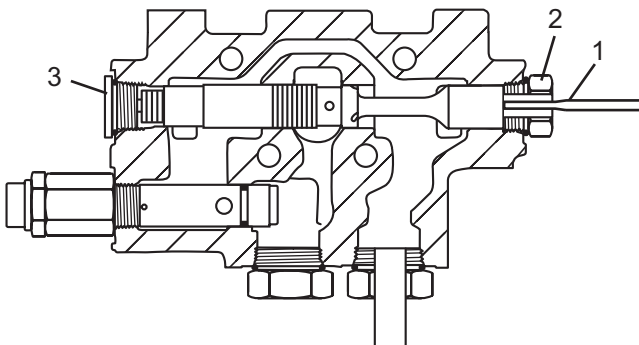

Figure 30
5. Using a punch or rod (Figure 30, Item 1) push on the large spool through the sense line hole in the large nut. The large spool should move in approximately 9/16 in. (14 mm) before stopping. The internal spring should return the large spool easily when the punch is removed. If the large spool binds or is sticky, it is probably contaminated and will have to be removed for cleaning and inspection.
- a. Remove the large hex end cap (Figure 30, Item 2) with a wrench. Remove the opposite end cap (Figure 30, Item 3) with a 5/8 in. hex wrench. The small spool will be exposed. Push on the small spool with a soft object and slide the spool valve assembly out of its cavity.